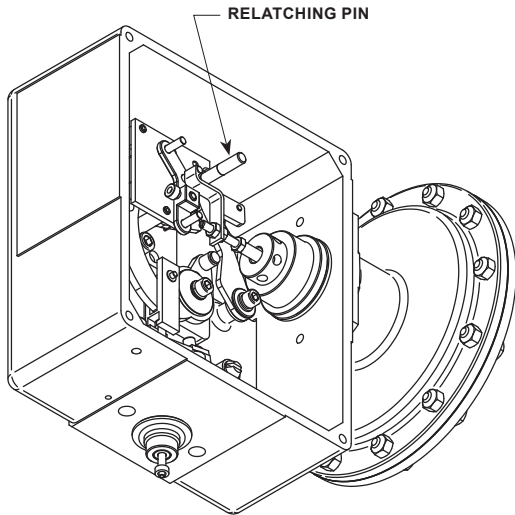

Figure 11. Relatching Pin in Detection Stage
- Push the relatching pin to relatch the detection stage (first stage) only. See Figures 11 and 12.
1. Push the relatching pin to relatch the detection stage (first stage) only, see Figures 11 and 12.
3. Put the tripping hook (I) into position and adjust tripping hook (I) locknuts (C and D) until the hook (I) has a distance of 1.5 mm / 0.06 in. from pin A.
4. Tighten tripping hook (I) locknuts.